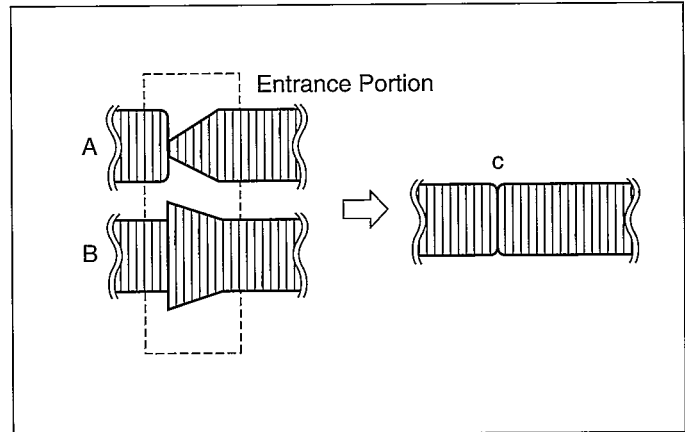

Fig. M7
- (2) Playback the Alignment Tape.
- (3) If the RF envelope appears like example "A" or "B" in Fig. M7, then adjustment of the tape guide post (P2: Entrance) is necessary.
- (4) Adjust the tape guide post (P2) with the post adjustment screwdriver so that the RF envelope at the entrance portion becomes flat as shown in Fig. M7 "C".